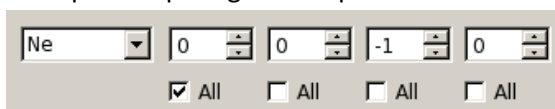

Figure 6 Example of how to input variables for a graph
- The 'value at point' button and 'divide by' are debatably a little redundant however they can be a quick way to find the value of the data at a specific point. Note that the 'all' boxes are ignored so figure 6 would give the same output as typing `print ne[0,0,-1,0]` into the command line.